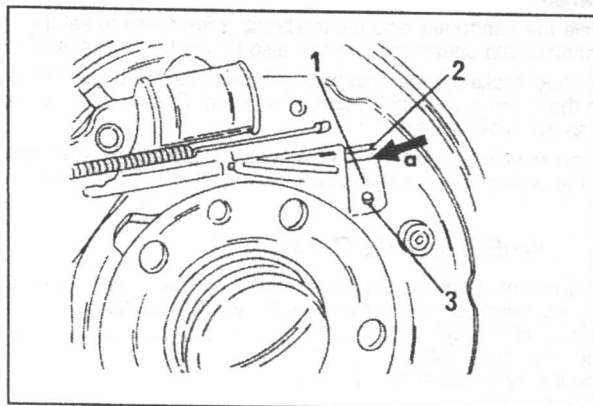

Fig. 8.13. — When fitting the automatic adjuster lever (1) fit the end "a" below the link (2) and above the pin (3).
- Fit the adjuster lever (1). Fig. 8.13 shows more details of the installation. The end "a" of the lever must be placed under the the link (2) and above the pin (3).